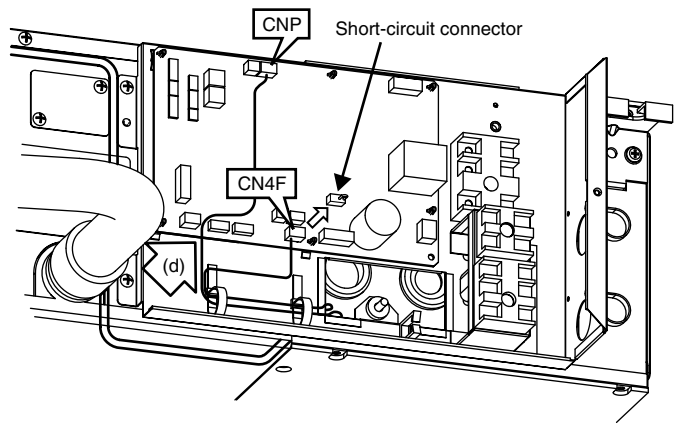

Fig. 8
- (3) Remove the short-circuit connector from CN4F on the control board (white, 4P). (Fig. 8)
- (4) Route the two drain pump wires behind the CONTROL BOX and into the CONTROL BOX. Lift the CONTROL BOX in the direction of the arrow (d) to allow the wires through. (Fig. 8)
- (5) Connect the drain pump wire (connector: white, 3P) to CNP on the control board, and connect the float switch wire (white: 4P) to CN4F on the control board respectively. (Fig. 8)